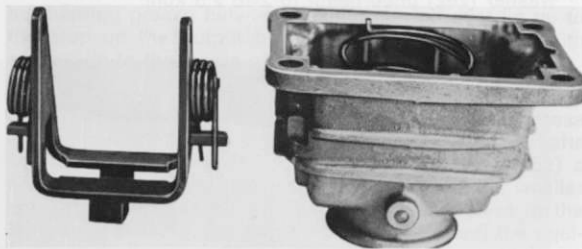

Fig. 66
- 1.3 Place ring (659) with the bore to the taper compression spring (628) in the shift turret (629). Place taper compression spring on the ring. Fasten **torsion springs** (633 and 633.1) to interlock swing as shown in Fig. 66. The stronger spring lies against the shorter tang.